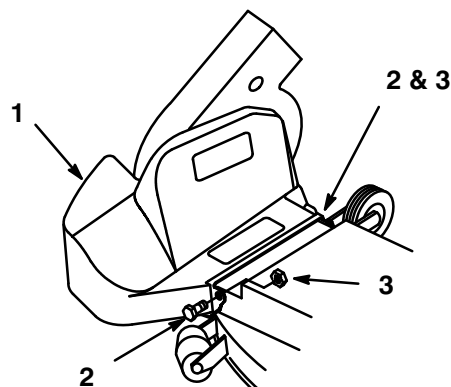

Figure 31
1. Remove the blower belt cover by removing (2) 1/4" lock nuts and 1/4 x 5/8" bolts (Fig. 31).